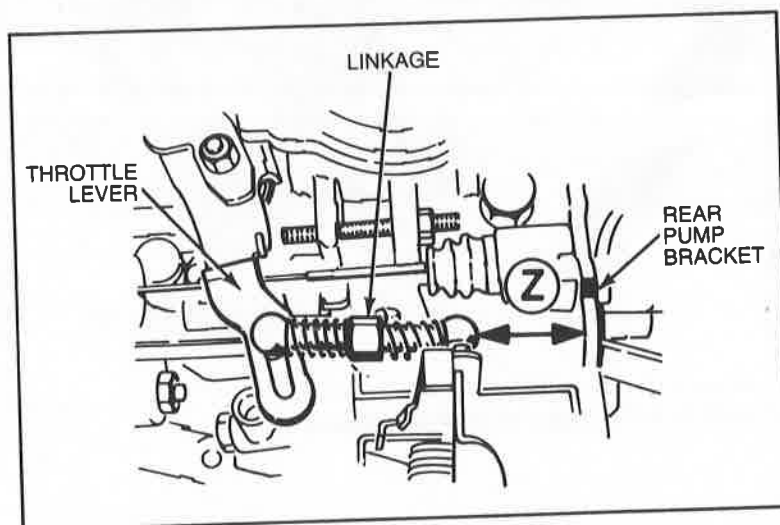

Figure 21 Dimension Z
9. Move lever against high speed stop and measure distance from end of linkage to pump rear bracket (Fig. 21, Dimension Z). Dimension Z must be 28.5 to 29.5mm (1.122 to 1.161 inches). If Dimension Z is not to specification, repeat Steps 2 through 8.